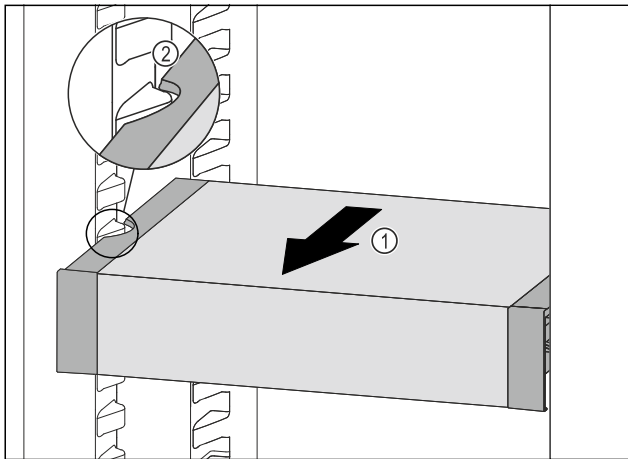

Fig. 123
- Pull VarioSafe forwards Fig. 123 (1) until the recesses in the side of the VarioSafe are at the level of the support rib in the fridge section. Fig. 123 (2)